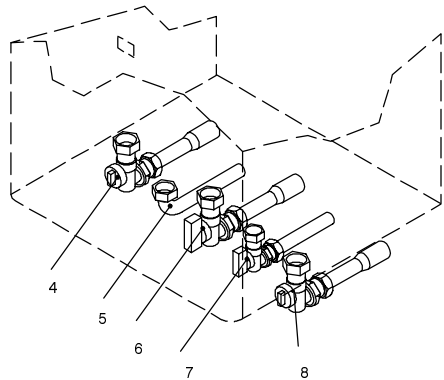

fig. 2.3
- 1 Check that the taps located in the lower part of the boiler are open (fig. 2.3).